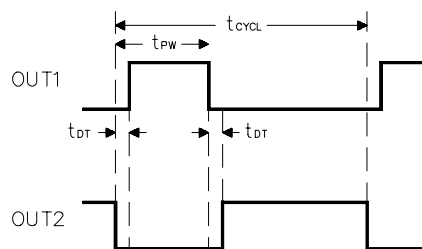
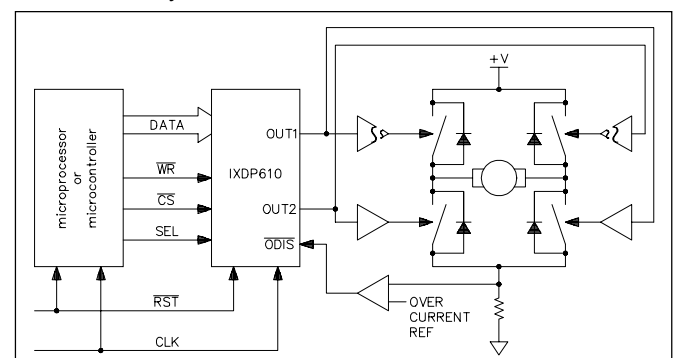

Fig. 2 PWM Cycle Time and Dead-Time Definition
Fig. 3 IXDP610 to DC Servo Motor Full Bridge Block Diagram
Because the IXDP610 is a digital IC, and is programmable, it is possible to tailor the dead-time period (defined as t_{DT} in Fig. 2). IXDP610's programmable dead-time feature is difficult to duplicate in the equivalent analog system. The control of a switching bridge usually involves a process of alternating the "on-time" of two power switches connected in series between a high-voltage and a low-voltage. For example, the H-bridge of Fig. 3 can be operated by turning the upper left and lower right transistors on and leaving the two remaining transistors off, during the first half of the PWM cycle. In the second half of the cycle, the upper right and lower left transistors are on and
Dead-time counter bits - these three bits determine the dead-time period, as defined by Fig. 2. Dead-time is that period of time when both OUT1 and OUT2 are low. Any binary number from 000 through 111 is valid. Thus, eight different dead-time periods can be programmed. DT0 is the least significant bit and DT2 is the most significant bit. A 000 binary means no dead-time and a 111 means maximum dead-time. Each dead-time count corresponds to two CLOCK periods. For instance, if a binary three (3) is programmed into the dead-time bits, the dead-time will be six external CLOCK cycles long.
In a typical PWM cycle (refer to Fig. 2) two dead-time periods will occur. One follows the turnoff of OUT2. The dead-time counter is triggered by an output turning off. During a dead-time period, both outputs are guaranteed to be off (no dead-time periods occur during 0 % and 100 % duty-cycle states). The dead-
time period overlaps the ontime of an output, therefore, it shortens the on-time without affecting the base PWM cycle time. A dead-time period is only inserted if an output changes from high to low (on to off). Thus, if a PWM duty cycle is chosen such that an output would be on for a period of time equal to or less than one dead-time period, the switch associated with that output will not be turned on during the PWM cycle. In this special case, one will observe only dead-time period per PWM cycle time, rather than the two dead-time periods shown in Fig. 2.
The Pulse Width number that is written to the Pulse Width latch represents the high time of OUT1 (the low time of OUT2). The Dead-time Counter decreases the on-time (output high) of an output by one dead-time period (t_{DT}). See Fig. 2 and the description of the dead-time bits in the Control latch to determine the duration of one dead-time period.
"PWM cycle time" is t_{CYCLE} in Fig. 2.